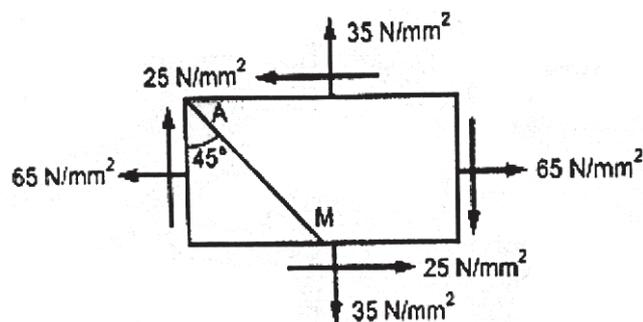

Fig 4
- Q6) a) A point in a strained material is subjected to stress as shown in fig.4. Using Mohr's circle method (Using only graphical method). Determine
- The normal and tangential stresses across the oblique plane AM as shown in fig.4.